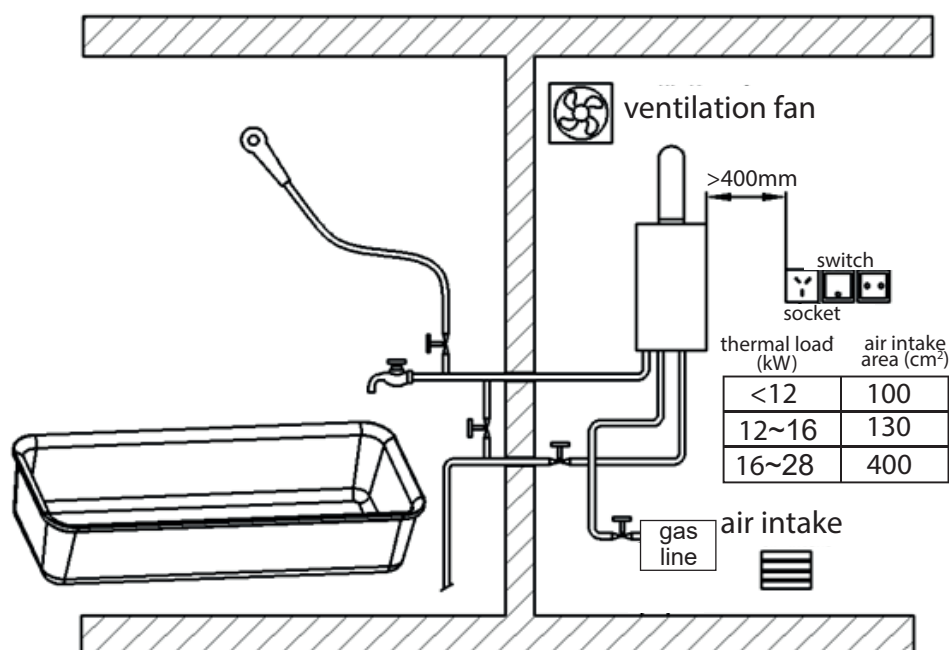

Fig.7
- Do not install the appliance in bedroom, basement, bathroom, or rooms with bad ventilation condition. The room for installation shall be well ventilated. A ventilation hole as well as an air intake hole which connects to the outside must be drilled in the wall, and the size of the hole must be no less than the table in Fig.7.
- The ventilation fan, if there is one, shall be installed over the appliance, and the air intake hole level should be lower than the appliance. The appliance must be kept at least 400mm far from electricity (Fig.7), and neither line or electric equipment could be put over the appliance.